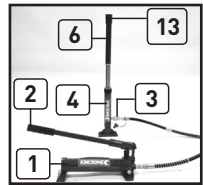

Fig.4
3. Fit the pump handle to the pump unit by rotating clockwise - DO NOT over-tighten. (Fig 4)
5. With the desired accessory fitted (10-17) to the extension (5-8) tube or hydraulic ram (4), it is now ready for use (Fig 4).